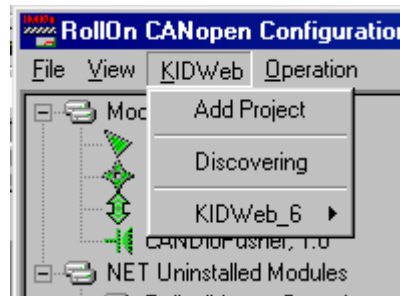

Fig. 4.10.1
- Click on **KIDWeb** menu to open the drop-down box shown in Fig. 4.10.1 – the lowest item displays the name of the selected KID Web (in our case KIDWeb_6).